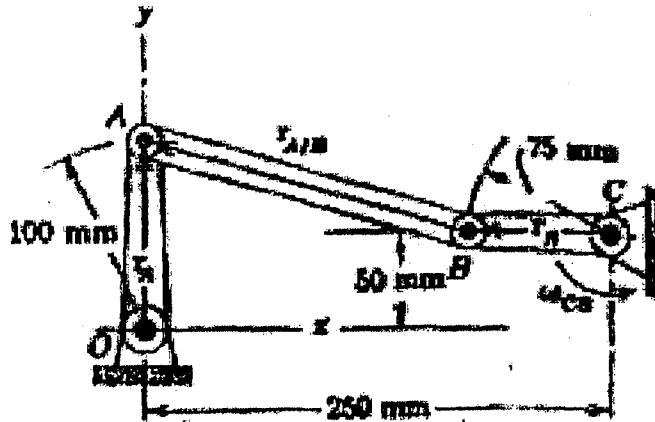

Figure 2. A 4-bar linkage
- For the mechanism shown in **figure 2**, crank CB oscillates about C through a limited arc, causing the crank OA to oscillate about O. When the linkage passes the position shown in the